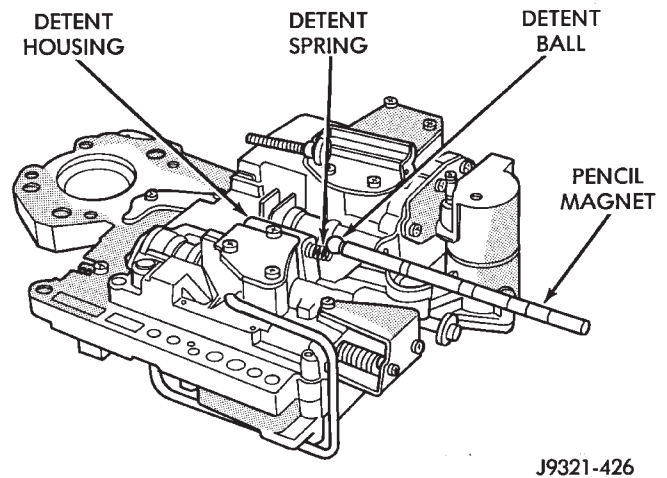

Fig. 58 Detent Ball And Spring
(18) Position pencil magnet next to detent housing to catch detent ball and spring. Then carefully remove Retainer Tool 6583 and remove detent ball and spring (Fig. 58).